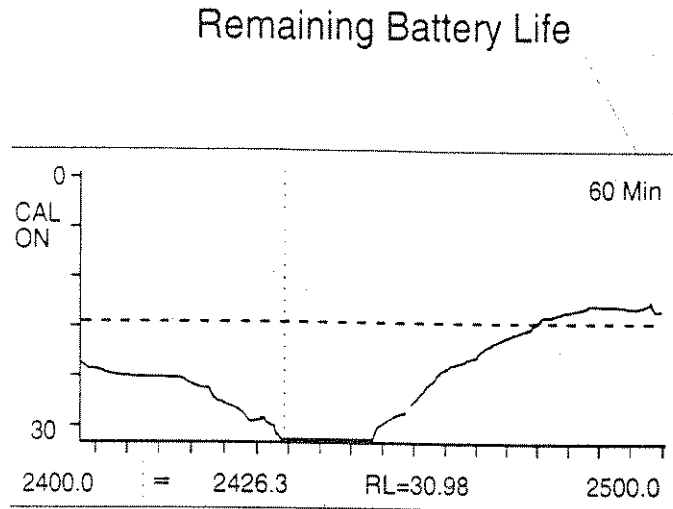

Figure 2-2. Battery Monitor
- Step 28.** After the sweep completes, observe that a time value appears in the top-right quadrant of the LCD (Figure 2-2).